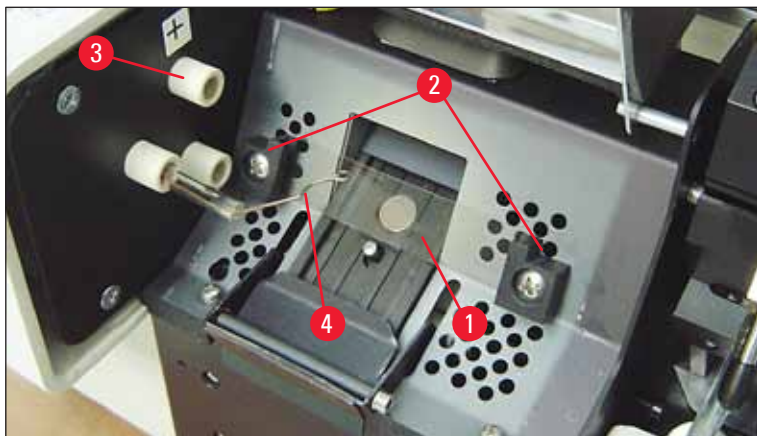

Fig. 20
5. Make sure the contact spring (→ "Fig. 19-2") is removed from the priming wire (→ "Fig. 20-4") of the bulb (See also (→ "Fig. 20") and (→ "Fig. 21-1")).